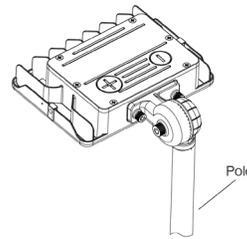

Fig. 1.5
5. Loosen the bolt and adjust the knuckle mount's angle as desired, then tighten the bolt to lock into place (Fig. 1.5).